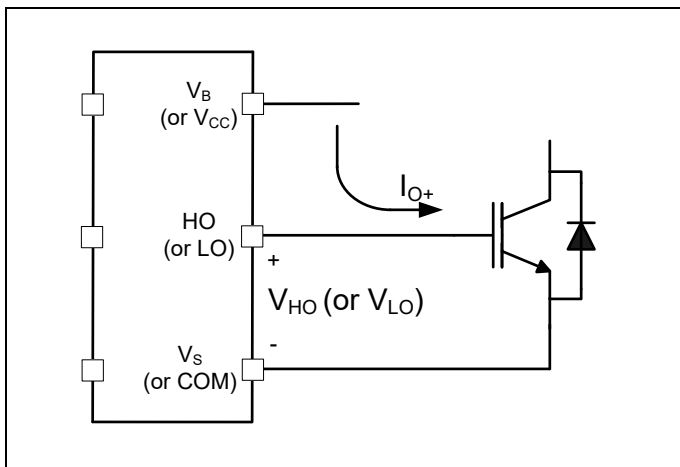

Figure 4 HVIC Sourcing current
The 2ED2184(4)S06F(J) HVIC is designed to drive MOSFET or IGBT power devices. Figures 4 and 5 illustrate several parameters associated with the gate drive functionality of the HVIC. The output current of the HVIC, used to drive the gate of the power switch, is defined as  $I_O$ . The voltage that drives the gate of the external power switch is defined as  $V_{HO}$  for the high-side power switch and  $V_{LO}$  for the low-side power switch; this parameter is sometimes generically called  $V_{OUT}$  and in this case does not differentiate between the high-side or low-side output voltage.